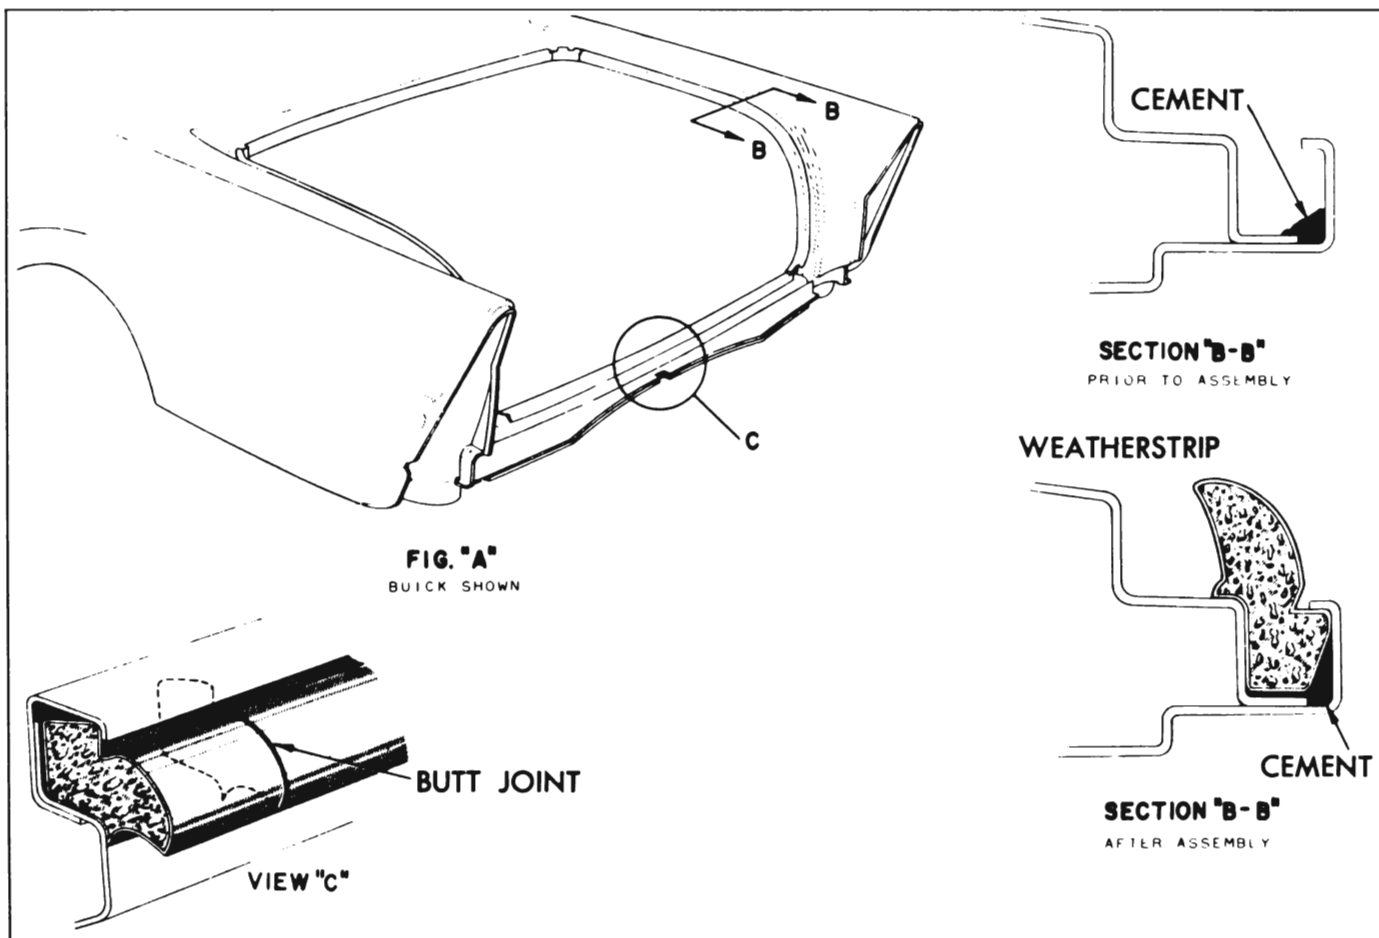

Figure 13-249—Rear Compartment Weatherstrip
3. Using a pressure-type gun flow a bead of weatherstrip cement along weld joint at lower inner corner of the rear compartment gutter around entire perimeter of gutter as shown in "C-C", Fig. 13-249.